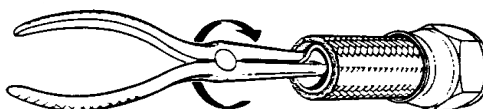

Figure 8A. Removing Tube From Sleeve
- Step 4. Hold socket firmly in vise. Do not damage socket. Using needle nose pliers, remove the tube from the sleeve and hose reinforcement. (See Figure 8A). The tube may be removed by folding longitudinally and pulling it out of the socket.